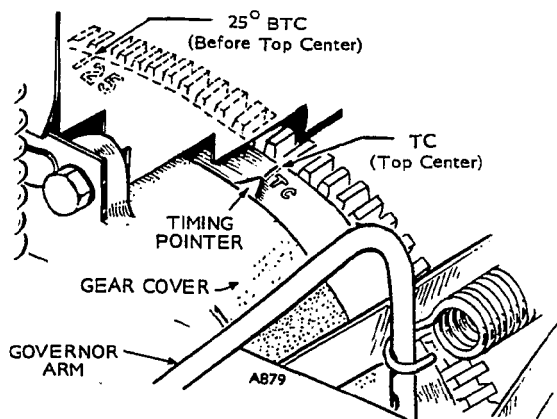

FIGURE 55. TIMING MARKS
To adjust breaker gap, rotate crankshaft clockwise until 55° ATC mark on flywheel matches the timing pointer (Figure 55). This is the point of maximum breaker opening.
2. Rotate flywheel clockwise until TC mark on flywheel approaches timing indicator (Figure 55).